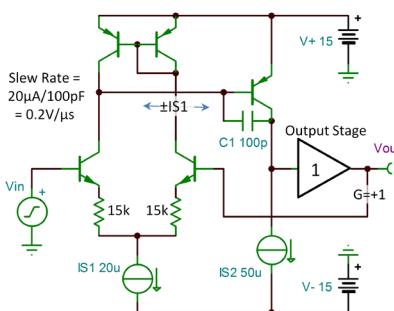

Figure 50: A large change in the input signal creates an output slewing condition.
If the input step is large enough, the accelerator is jammed to the floor. More input will not make the output move faster. (Figure 50 shows why in a simple op amp circuit.) With a constant input voltage to the closed-loop circuit, there is zero voltage between the op amp inputs. The input stage is balanced, and the current $IS1$ splits equally between the two input transistors. With a step-function change in V_{IN} greater than 350 mV for this circuit, all of the $IS1$ current is steered to one side of the input transistor pair. That current charges (or discharges) the Miller compensation capacitor, $C1$. The output slew rate (SR) is the rate at which $IS1$ charges $C1$, equal to $IS1/C1$.
Large-signal square waves with very fast edges tilt on the rising and falling edges according to the slew rate of the amplifier. The final portion of a rising or falling edge will have rounding as the amplifier reaches its small-signal range, as shown in Figure 50.